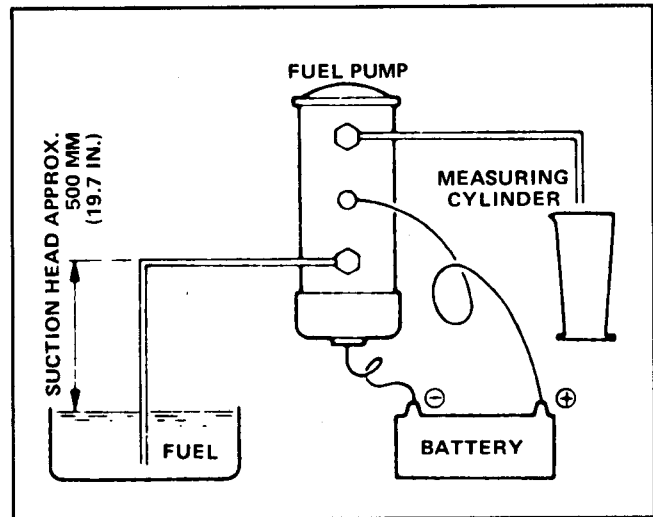

Figure 22
2. If no pumping action occurs when the ignition switch is turned on, connect a 12 volt DC battery directly to the pump (Fig. 22). If the pump now operates, check for an electrical failure of the pump circuit, eg. fuses, connections, wires, etc.
3. The delivery of the fuel pump may be checked by disconnecting the fuel lines from the water separator and fuel filter and routing them to a can of filtered diesel fuel and a drain pan (Fig. 22). Activate the pump and measure the amount of fuel pumped in during a 15 second time interval. The standard pump rate is approximately 8 ounces (225 cc) in 15 seconds.